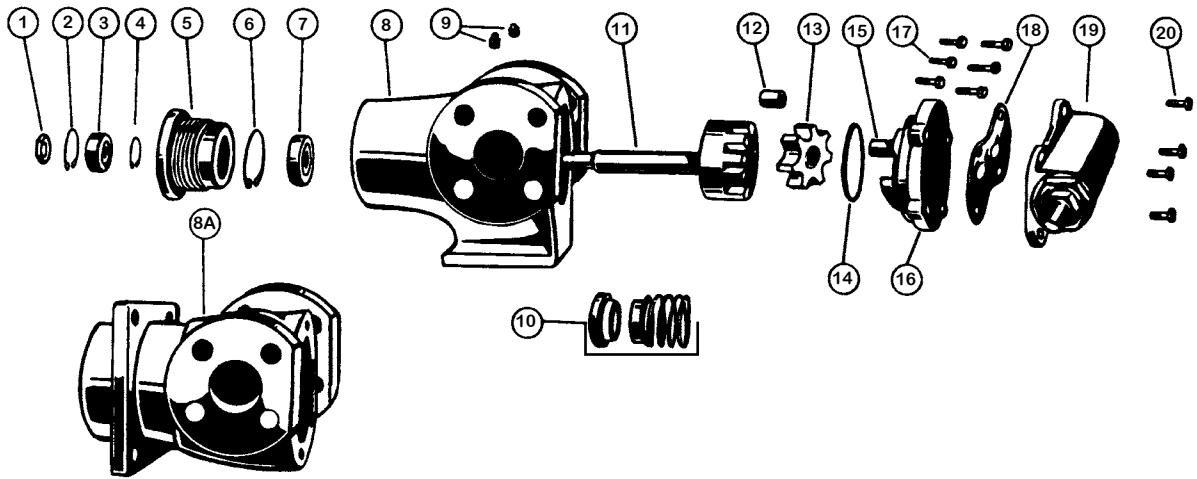

FIGURE 7 - EXPLODED VIEW FOR MODELS GG, HJ AND HL 4193 AND 493
1. Refer to figures 7 & 8 on page 4 for model to be disassembled and name of parts. Models 4193 & 493 are disassembled and assembled the same. The difference between these models is the casings.